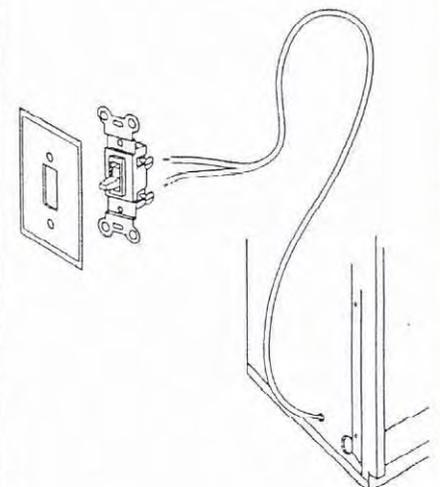

Figure 9
**Step 4.** Install the remote wall switch – The appliance is shipped with all the internal wiring completed at the factory. Select a convenient location for the remote wall switch and connect the wiring found at the appliance (Figure 9).